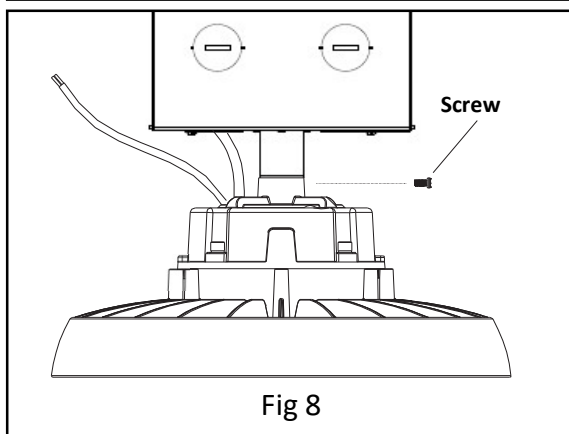

Fig 8
6. Once the fixture is tightened install the screw to make sure the fixture cannot be unscrewed. *See Fig 8.*